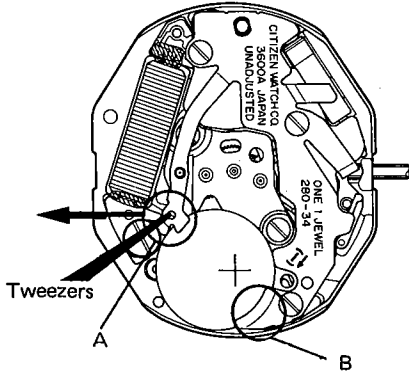

Fig. 1
- The power cell is held in place by the power cell strap, Parts A and B, as illustrated in Fig. 1. (Part A is a type of spring.)